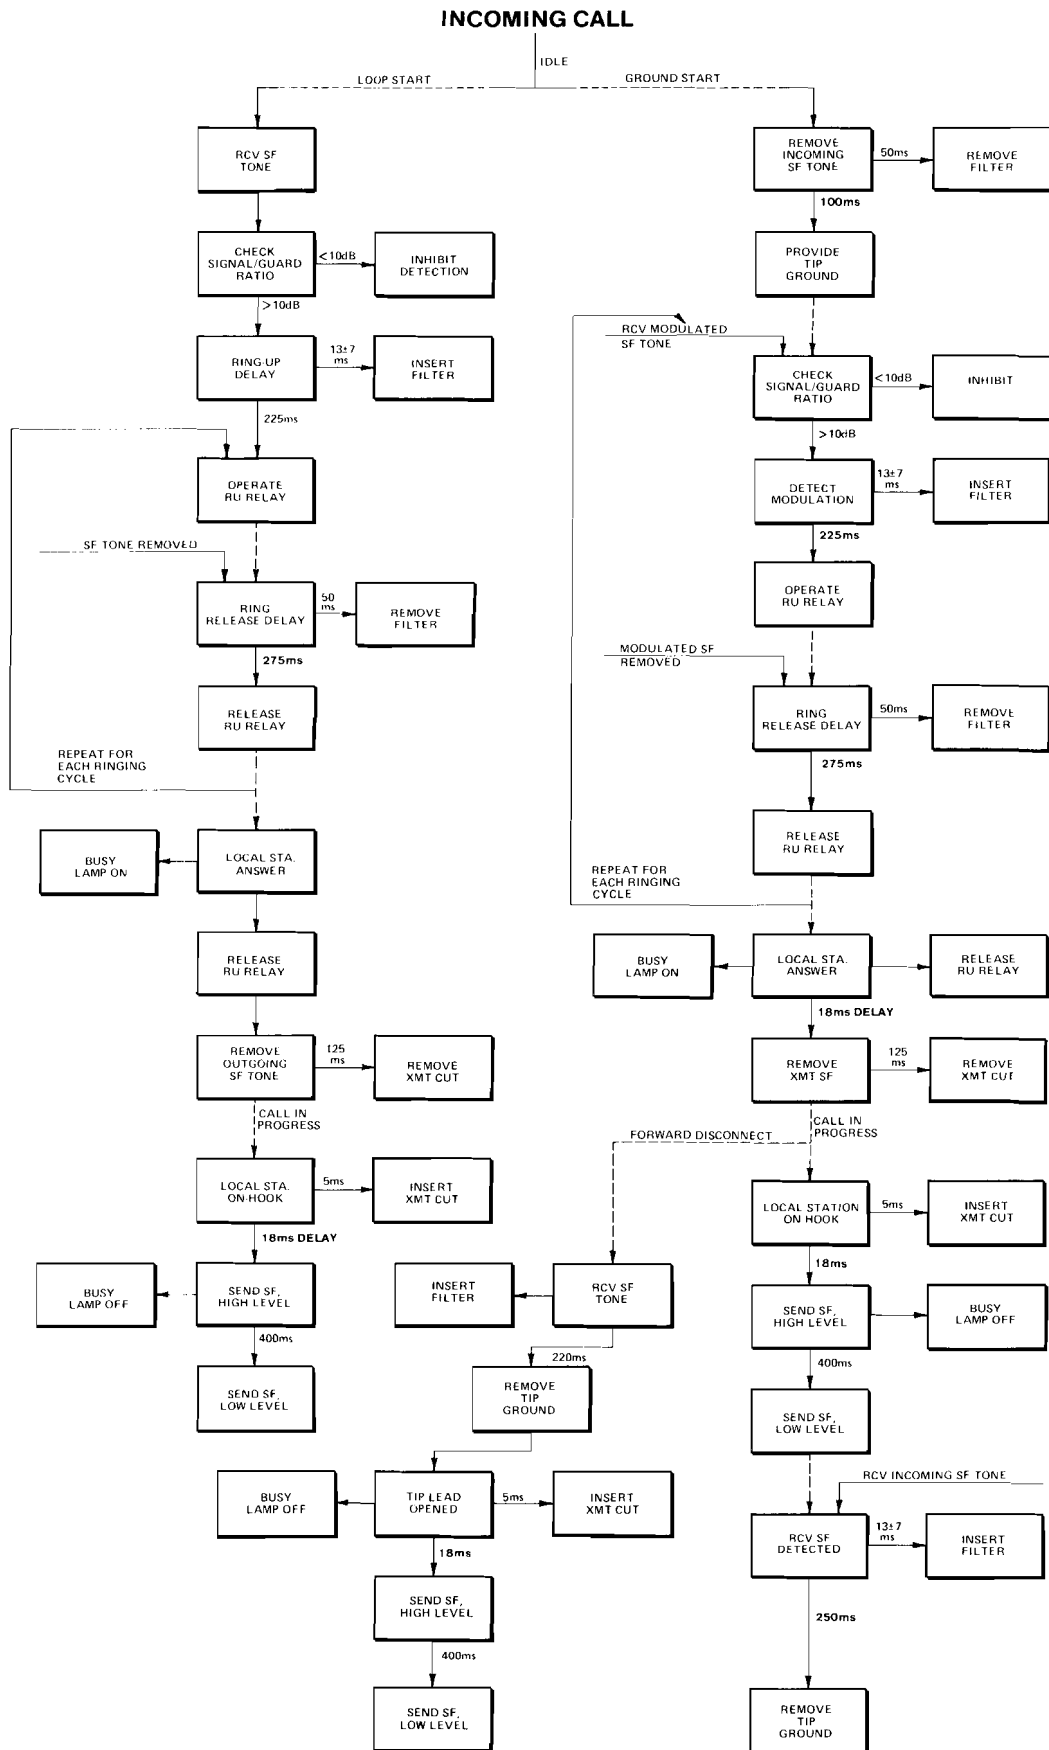

figure 10. Function sequence flowchart, incoming call
7.01 The *troubleshooting guide* in this section may be used in conjunction with the function sequence flowcharts (figures 10 and 11) in section 4 of this practice to assist in the installation, testing, or troubleshooting of the 6177 4Wire-to-2Wire SF-to-FXS Intermediate Repeater module. The guide is intended as an aid in the localization of trouble to a specific module. If a module is suspected of being defective, a new one should be substituted and the test conducted again. If the substitute module operates correctly, the original module should be considered defective and returned to Tellabs for repair or replacement. We strongly recommend that no internal (component-level) testing or repairs be attempted on the module. Unauthorized testing or repairs may void the module's warranty. Also, if the module is part of a registered system, unauthorized repairs will result in noncompliance with Part 68 of the FCC Rules and Regulations.